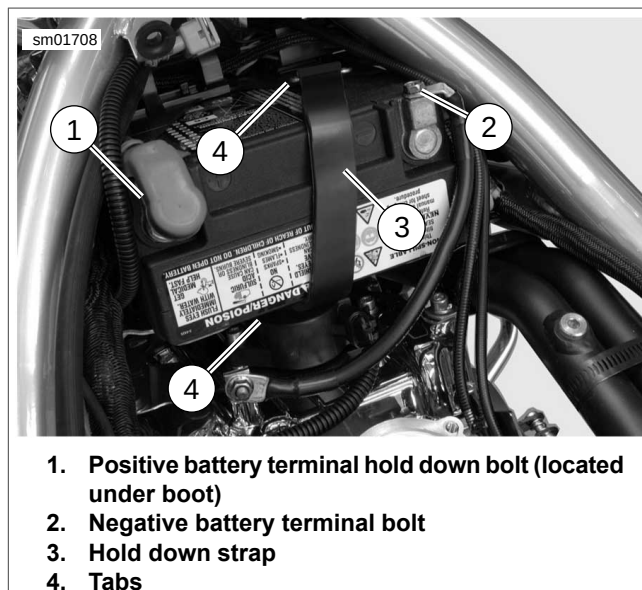

Figure 1-77. Battery Removal (typical)
4. See Figure 1-77. Remove negative and positive battery terminal bolts.